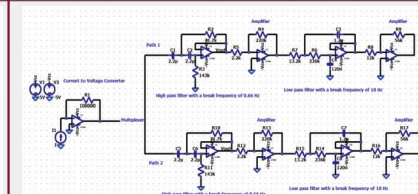

Figure 4: Circuit Diagram of SpO2 Pulse Oximeter System
- [1] Principal component model of multispectral data for near real-time skin chromophore mapping - Scientific Figure on ResearchGate. Available from: [https://www.researchgate.net/figure/Absorption-spectra-of-deoxygenated-Hb-and-oxygenated-HbO2-blood-with-the-isobestic\\_fig4\\_46034130](https://www.researchgate.net/figure/Absorption-spectra-of-deoxygenated-Hb-and-oxygenated-HbO2-blood-with-the-isobestic_fig4_46034130) [accessed 5 Sep, 2023]